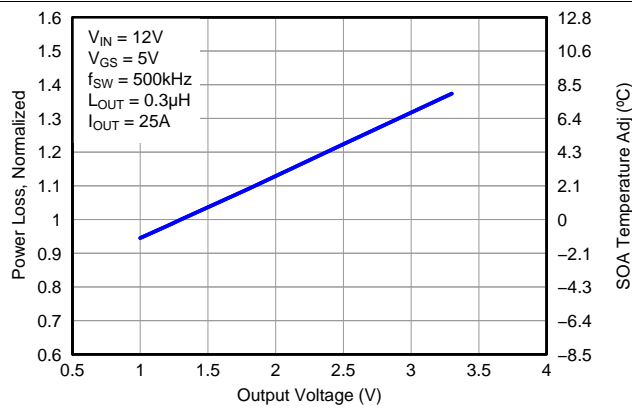

Figure 8. Normalized Power Loss vs Output Voltage
- Normalized power loss for output voltage ≈ 0.95 (Figure 8)
- SOA adjustment for output voltage $\approx -1.05^\circ\text{C}$ (Figure 8)